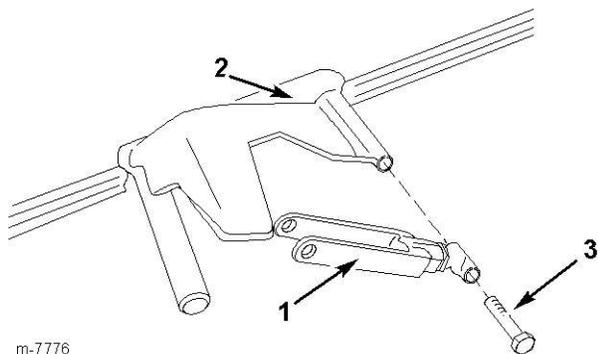

Figure 14
1. Install the actuator link to the boom extension as shown in Figure 14 using the bolt (1/2 x 8-1/2 inch).